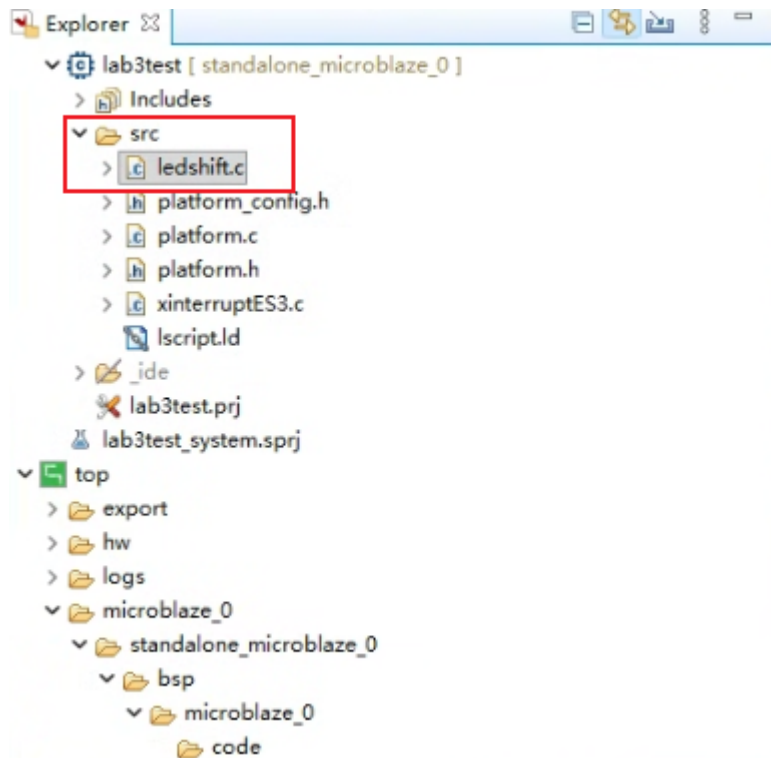

Figure 14
1. As shown in Figure 14, Create a new application with the name **LedShift** and rename **helloworld.c** to **led\_shift.c**.